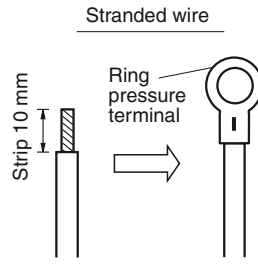
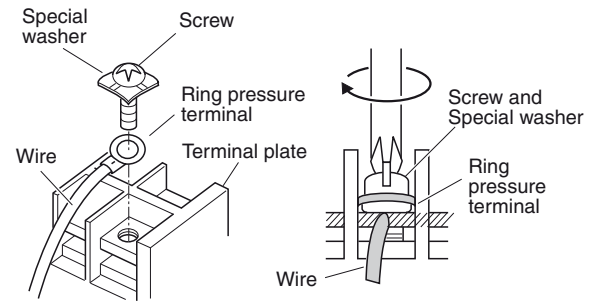

Fig.4-7
Fig.4-8
- (1) Cut the wire end with cutting pliers, then strip the insulation to expose the stranded wiring about 10 mm and tightly twist the wire ends. (Fig. 4-7)
- (2) Using a Phillips head screwdriver, remove the terminal screw(s) on the terminal plate.
- (3) Using a ring connector fastener or pliers, securely clamp each stripped wire end with a ring pressure terminal.
- (4) Place the ring pressure terminal, and replace and tighten the removed terminal screw using a screwdriver. (Fig. 4-8)